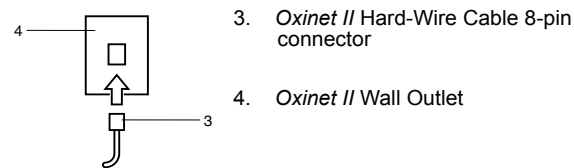

Figure 34: Oxinet II Wall Outlet
3. Connect *Oxinet II* hard-wire cable 8-pin connector (Figure 34, item 3) to *Oxinet II* wall outlet (item 4).